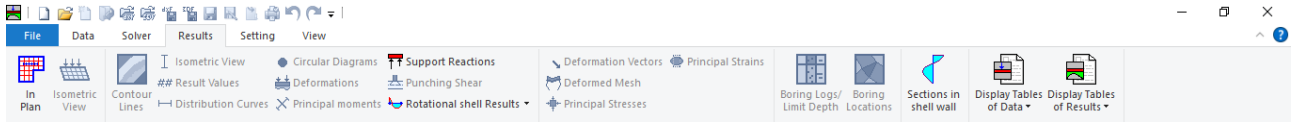

Figure 11.27 "Results" Tab
*ELPLA* can display and print a wide variety of results in graphics, diagrams or tables through the "Results" Tab. To view the data and results of a problem that has already been defined and analyzed graphically, switch to "Results" Tab (Figure 11.27).